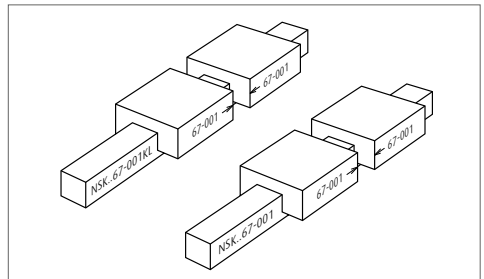

Fig. 30 When two rails have different reference number
- › When two or more rails of different reference number are used in a single set, the rails and slides have the same serial number. In this case, when slides are removed from the rail, it is unclear which rail each slide was previously installed on. When removing ball slides from the rail for an unavoidable reason (**Fig. 30**), sufficient precaution is required.